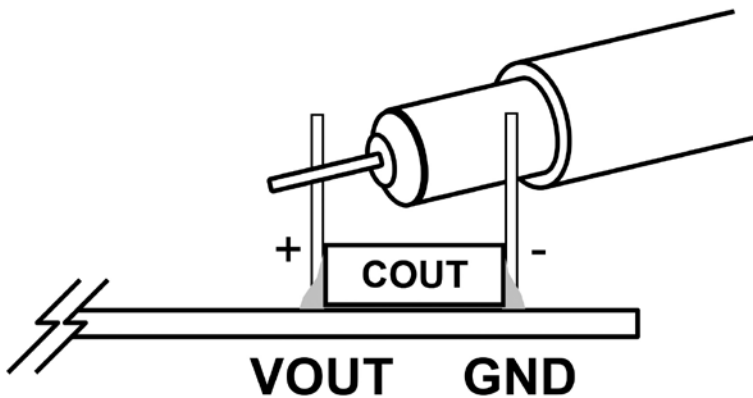

Figure 2. Scope Probe Placements for Measuring Input or Output Ripple
6. Once the input and output voltages are properly established adjust the loads within the operating range (0A to 2A max) and observe the output voltage regulation, output ripple voltage, switch node waveform and other parameters. Refer to Figure 2 for proper input/output voltage ripple measurement.
**Note 1:** To measure the input/output voltage ripple properly, do not use the long ground lead on the oscilloscope probe. See Figure 2 for the proper scope probe technique. Short, stiff leads need to be soldered to the (+) and (-) terminals of an output capacitor. The probe's ground ring needs to touch the (-) lead and the probe tip needs to touch the (+) lead.